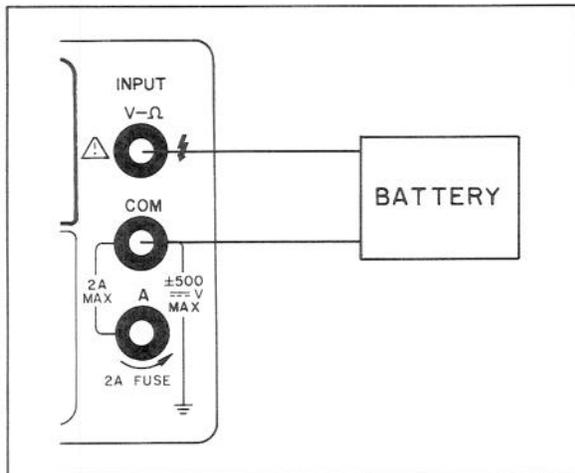

Figure 3-6. DC Voltage Measurements.
- Connect test leads from the Multimeter V Ω (high) and COM (low) terminals to the voltage under test as shown in Figure 3-6.